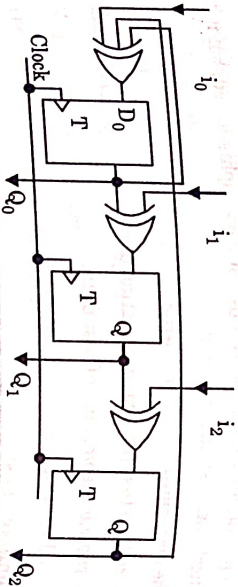

Fig. 5.16.1. Built-in-test-linear feedback shift register.
- The LFSR model is that of a finite state machine comprising storage elements and modulo two adders connected in feedback loops as shown in Fig. 5.16.1.